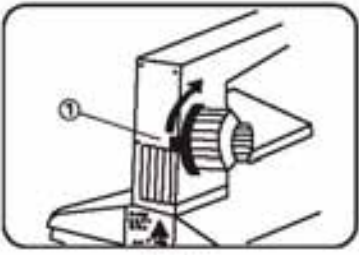

Fig. 24
(Fig. 24)
This lever ① is provided to prevent possible contact between specimen and objective as well as to simplify coarse focusing. The lever is locked in the clockwise direction after coarse focus has been accomplished. It prevents further upward travel of the stage by means of the coarse adjustment knobs & provide a limiting stop if the stage is lowered and then raised again. The prefocusing lever does not restrict fine focusing. (Fig. 24)